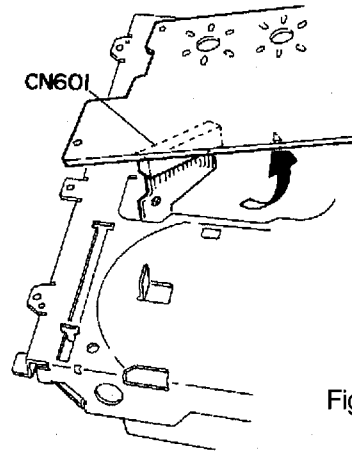

Fig.11
6. While raising the P.C.board, perform soldering to fill the position on the flexible P.C.board outgoing from the CD pickup unit (See Fig.11).
7. After turning over the CD traverse mechanism, remove the flexible P.C.board from the connector CN601 on the CD traverse mechanism control & servo P.C.board (See Fig.11).